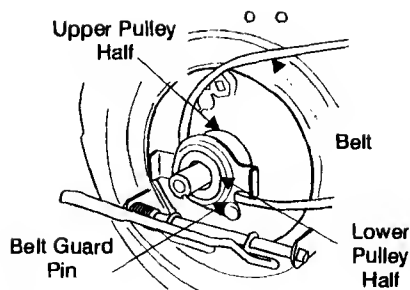

Figure 25
19. Place belt between the two pulley halves on the crankshaft. Make sure to route the belt inside the belt guard pin. See figure 25.
**IMPORTANT:** For proper assembly, it is essential to keep the assembly positioned as shown in figure 25.